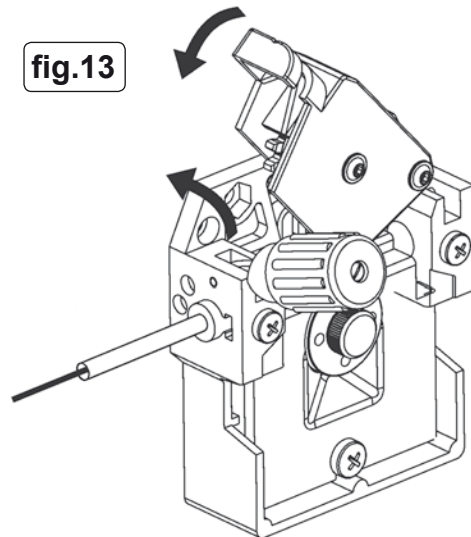

fig.13
- 4.3 Ensure that the wire is resting in the groove correctly then close the pressure roller housing and hinge the adjusting screw upwards to retain it in place. (See fig.13)